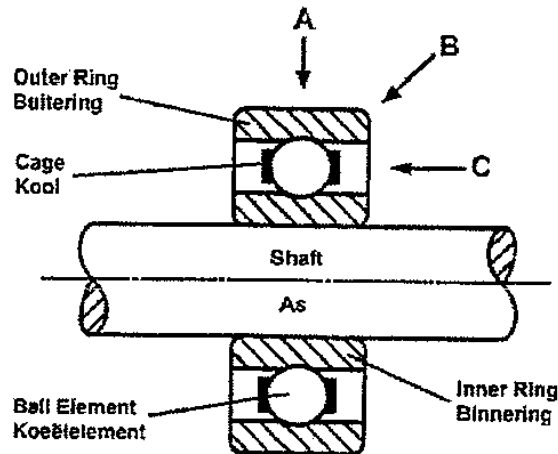

FIGURE 4
3.3 **Bearing loads of Figure 4:** (3)